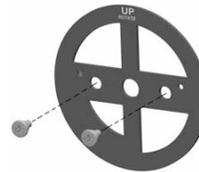

Figure 2
Step 2: Attach the bearing plate to the container door with the two 8-32 Shoulder Screws as shown in Figure 2.